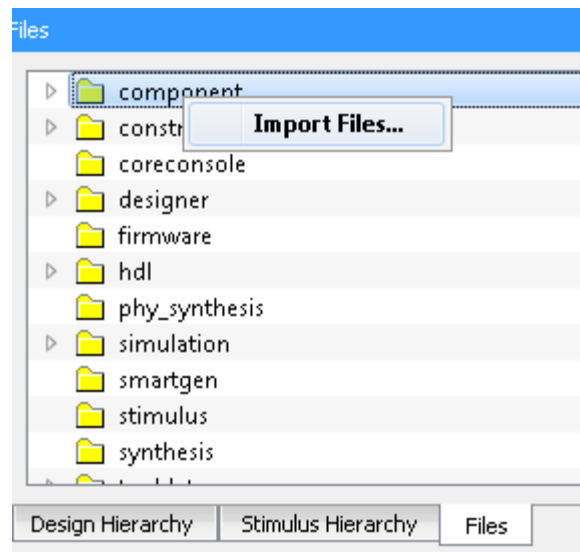

Figure 25 Importing the Components File in the Libero SoC
36. Go to the **Files** tab and select **Component > Import Files** and this opens the File Import dialog box, as shown in Figure 25.